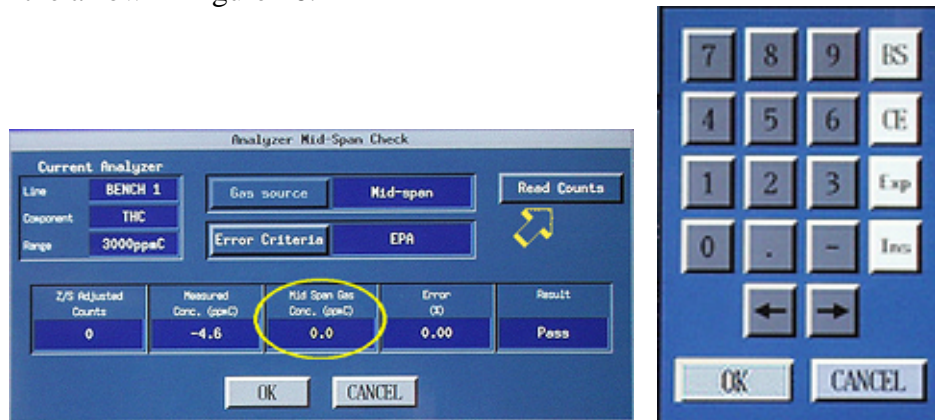

Figure 46
- 158 On the “Analyzer-Mid Span Check” panel, click in the “Mid Span Gas Conc.” field. See the circle in Figure 46 Use the on-screen keypad to enter the gas concentration value from the bottle in Step 140. On the keypad, click “OK.”
On the Analyzer Mid-Span Check panel, Click on the "Read Counts" button. See the arrow in Figure 46.